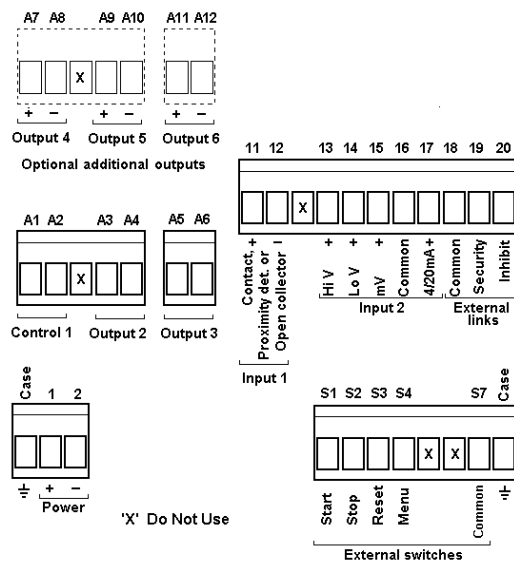

Fig 5 Installation and terminal connections
- Fix panel mounting clips to opposite sides of the instrument and tighten until the instrument is secure as shown in Fig 5. Four clips are required to achieve an IP65 seal between the instrument enclosure and the panel.
- Connect the panel wiring to the rear terminal block(s) as shown in Fig 5. To simplify installation, the terminals are removable so that panel wiring can be completed before the instrument is installed.